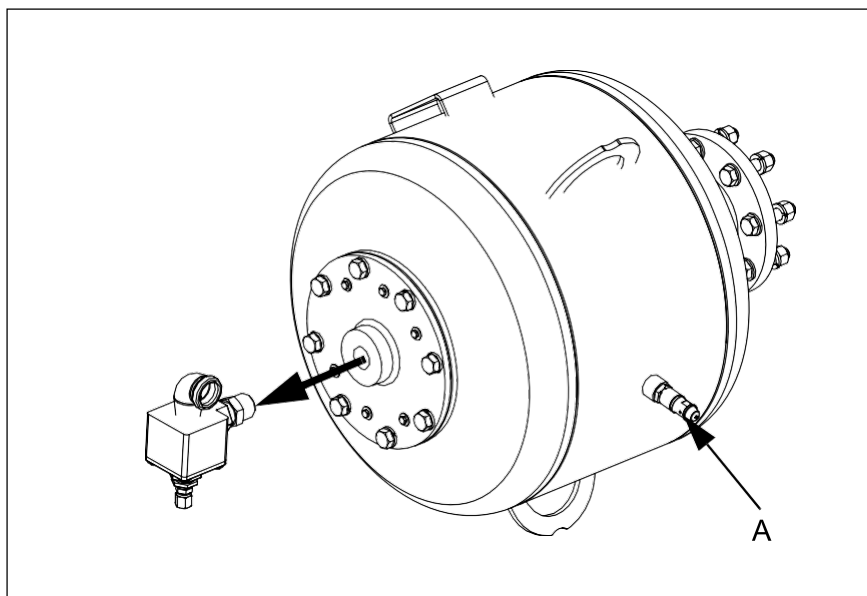

Fig. 9:
2. Activate the safety relief valve (A, Fig. 9) to discharge the air cannon.